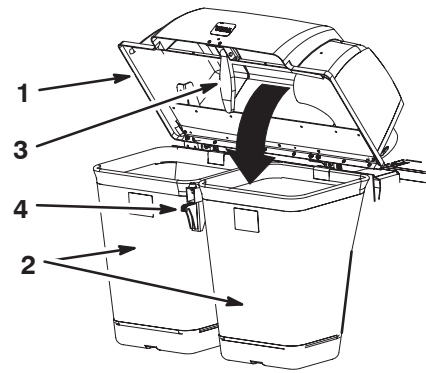

Figure 7
4. Lower the bagger hood over the bags (Fig. 7).
5. Position the bagger latch under the latch hook (Figures 7 and 8).